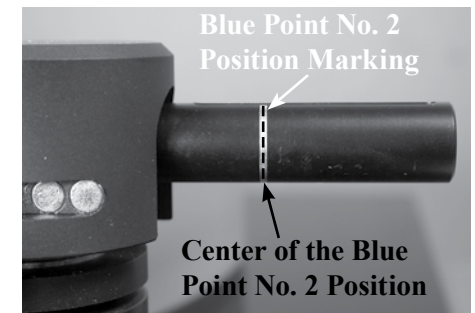

Figure 16
12. Position the Counterweight on the Tone Arm so the front surface of the Counterweight is in the center of the Blue Point No. 2 Cartridge position marking on the surface at the rear of the Tone Arm. Tighten the knurled knob to secure the position of the Counterweight. Refer to figures 16, 17 below and 18 on the next page.